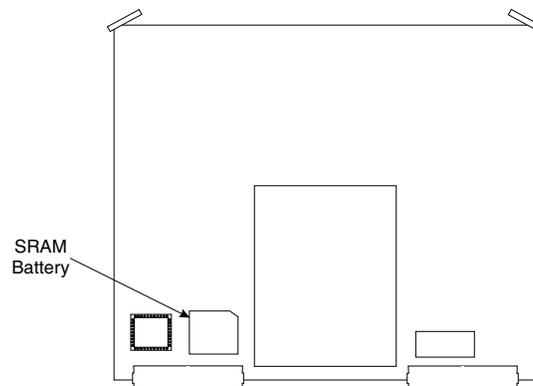

Figure 8-4. Location of SRAM Battery on the A9 PCB
- Step 3.** Locate and carefully remove the SRAM battery from the A9 PCB. See Figure 8-4.